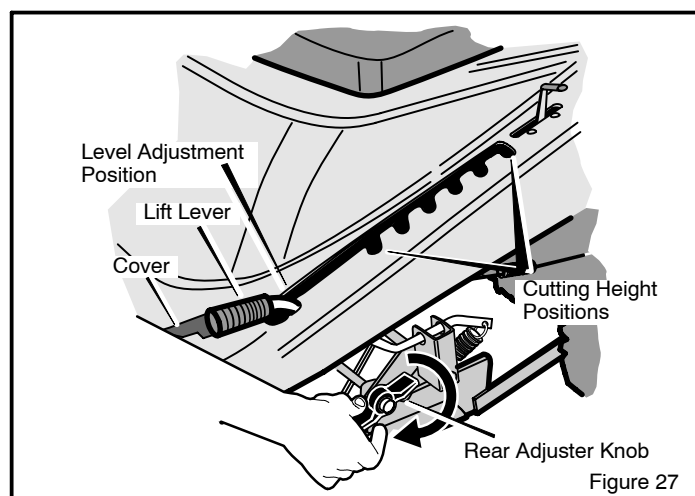
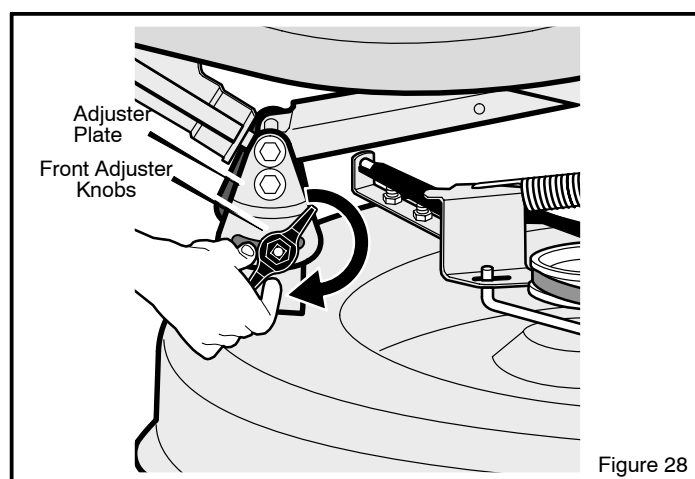

Figure 27
Figure 28
4. Open the **cover** (see Figure 27).
5. Move the **lift lever** to the LEVEL ADJUSTMENT position (see Figure 27).
6. Loosen the front and rear **adjuster knobs** (see Figure 27 and Figure 28). Make sure both sides of the mower housing are setting on a flat surface.
7. Make sure that the adjuster plate is loose and can easily move up or down (see Figure 28).